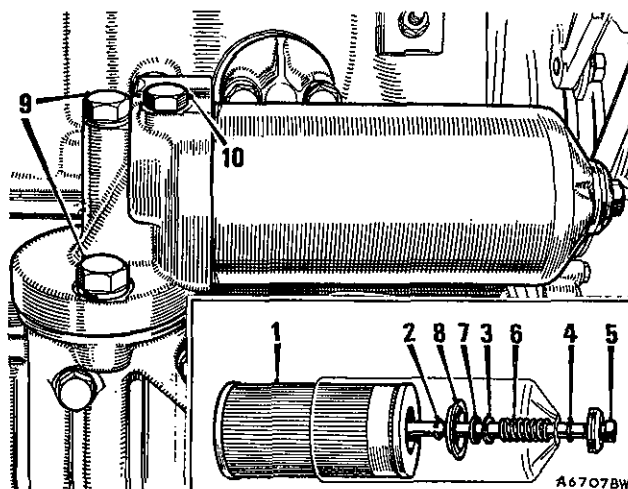

Fig. Aa.1
- (6) Reassemble the filter bowl with a new element and the internal components fitted in the order shown in Fig. Aa.1. Ensure that the internal seating washer is in good condition and a snug fit on the retaining bolt.
- (7) Refit the filter bowl assembly and tighten the central retaining bolt to the torque figure given in 'GENERAL DATA'.
- (8) Check for oil leakage immediately the engine is started.
- (9) Top up the engine oil level following the instructions in Section Aa.1.
- (10) Refit the front grille.